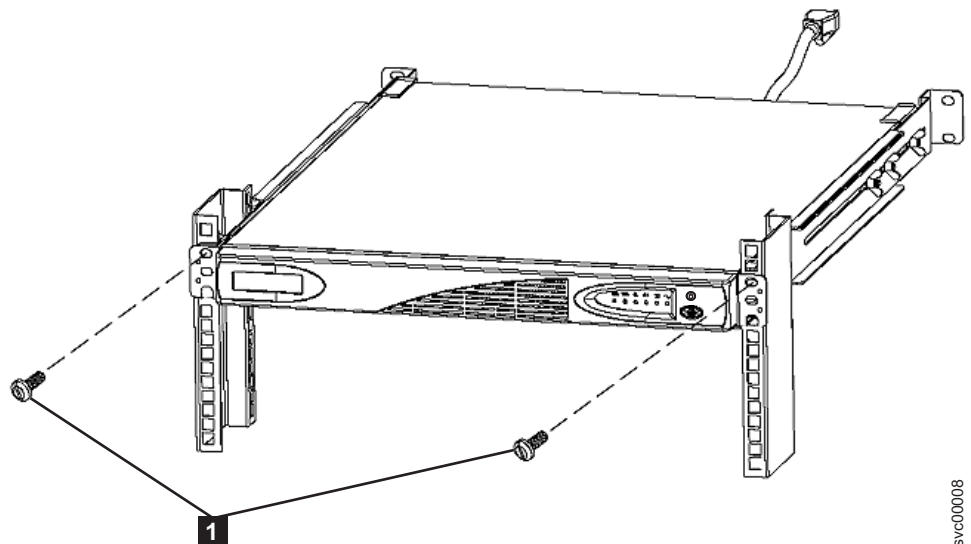

Figure 275. Removing the front screws from the 2145-1U uninterruptible power supply
1. Loosen and remove the two M6 × 10 screws from each side of the 2145-1U uninterruptible power supply. See **1** in Figure 275.